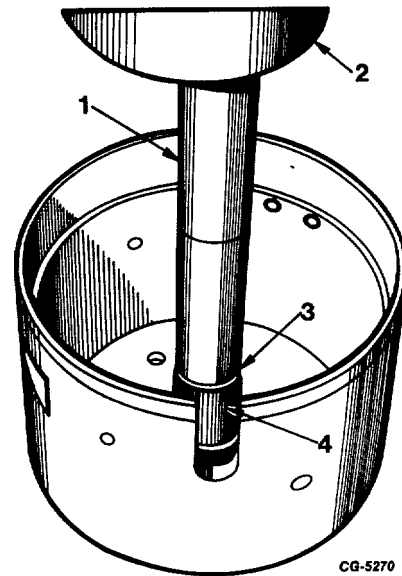

Fig. 29 Installing Upper Bushing Using Bushing Installer SE-1955-7.
On distributors without tachometer drive, groove in outside diameter of bushing must be positioned at the top (Figure 29).
- Position distributor housing in press. Insert bushing installer (SE-1955-7) into bushing (Figure 29).